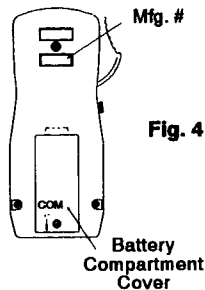

Fig. 4
1. Loosen screw toward the bottom on the back of the instrument. (See Fig. 4)
1. Insert one insulated voltage test lead connector into the right hand (viewing instrument from front) voltage receptacle in the bottom of the instrument. Looking at the back of the instrument, this voltage receptacle is marked "COM". (see Fig. 4)